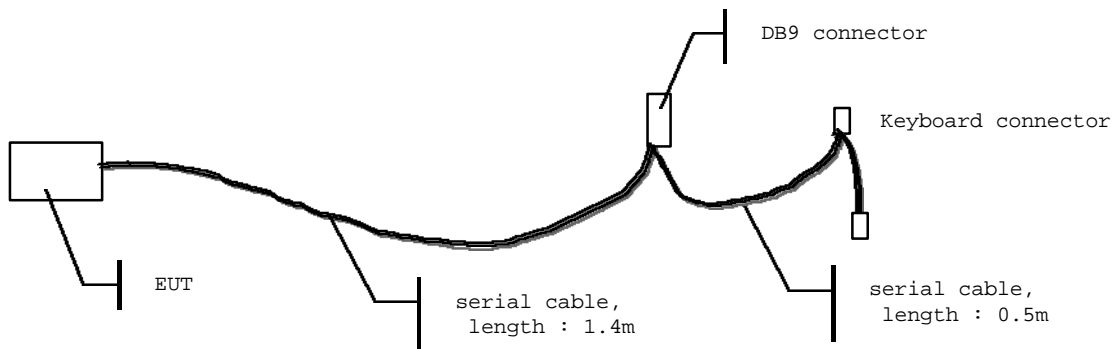

Figure 1
- serial cable (EUT) shielded with keyboard connector, length : 1.4m + 0.5m (see figure 1)